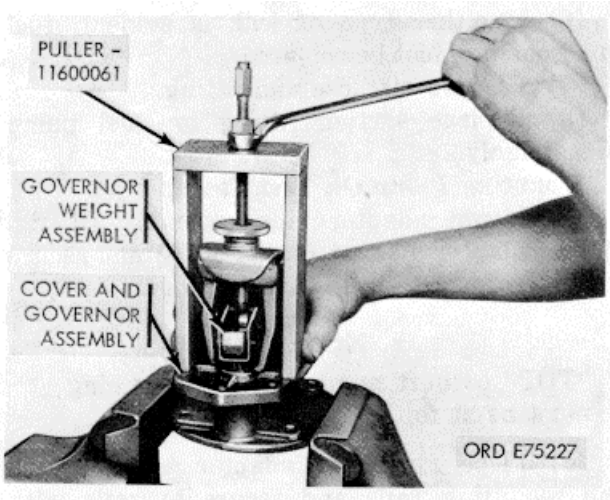

Figure 3-75. Governor weight assembly removal/installation.
(b) Using fuel pump governor weights puller (28, fig. B-28), remove governor weights assembly (19) from cover as shown in figure 3-75.